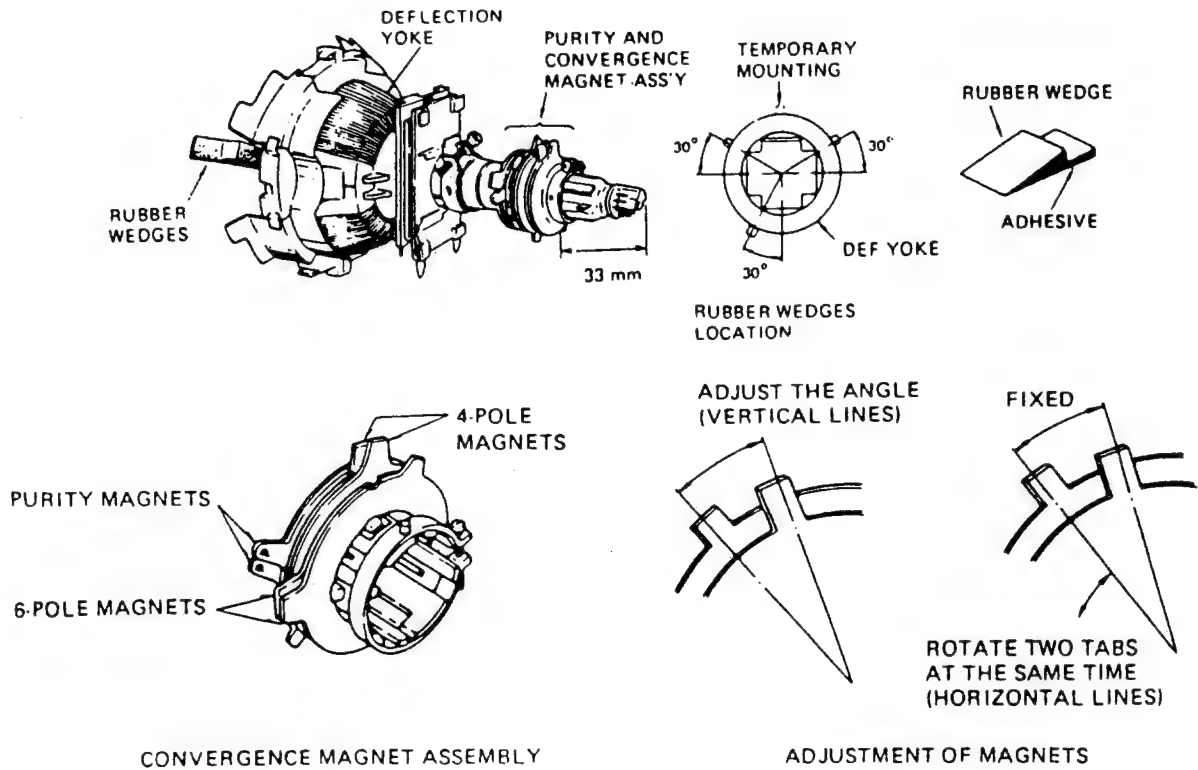
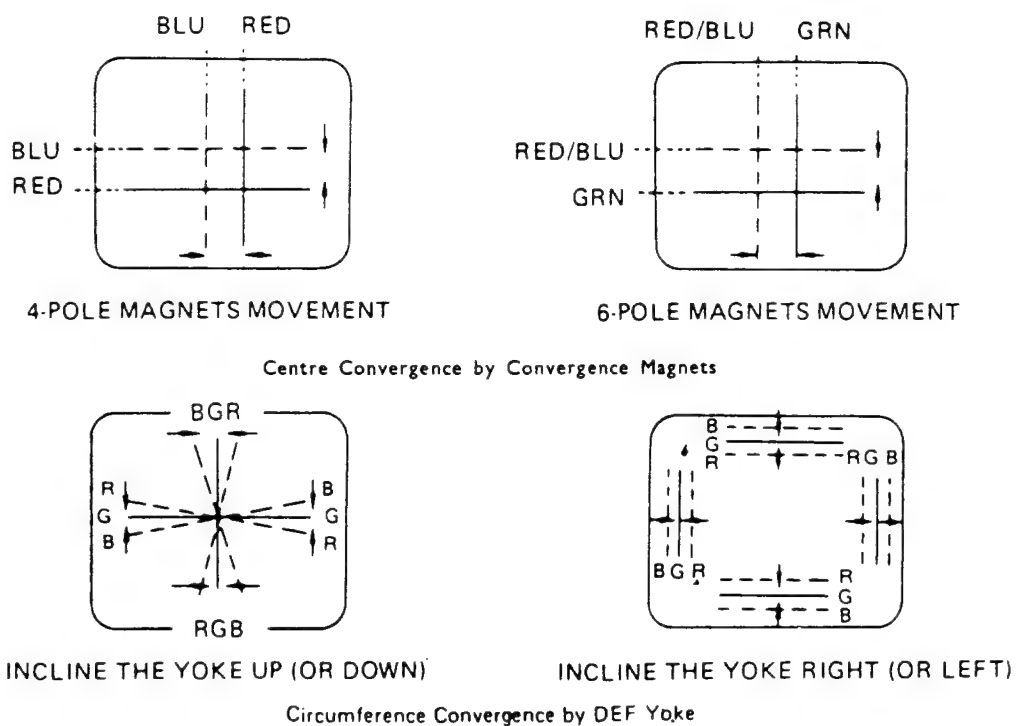

Figure 16.
Figure 17.
3. Adjust two tabs of the 4-Pole Magnets to change the angle between them (See figure 16.) and superimpose red and blue vertical lines in the centre area of the picture screen. (See figure 17.)
4. Turn the both tabs at the same time keeping the constant angle to superimpose red and blue horizontal lines at the centre of the screen. (See figure 17.)
3. Tilt front of the deflection yoke up or down to obtain better convergence in circumference. (See figure 17.) Push the mounted wedge into the space between picture tube and the yoke to fix the yoke temporarily.
5. Tilt front of the yoke right or left to obtain better convergence in circumference. (See figure 17.)